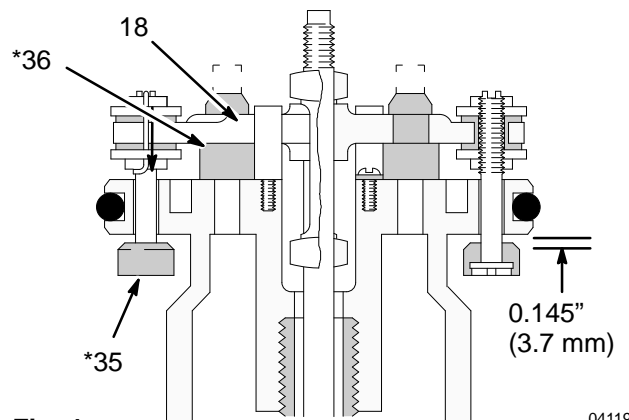

Fig. 4 04119
2. Check the polished surfaces of the piston (15), piston rod (24), and cylinder (14) wall for scratches or wear. A scored rod will cause premature packing wear and leaking.
4. Install the flat packing (27), back-up washer (26), bearing (33), packings (31) and gland (32), in the same order as before and with the lips of the v-packings facing down. Screw the packing nut (25) into the base loosely.
5. Slide the piston rod (24) down through the packings and lower the piston (15) into the base. Be sure the o-rings (21, 22) are in place.
6. Pull the exhaust valve poppets (36*) into the valve actuator (18) and clip off the top part shown with dotted lines. See Fig. 4.
7. Install the transfer valve grommets (12*), then reassemble the valve mechanism. Before installing the lockwires (17*) in the adjusting nuts (13*), use the adjustment gauge, 171–818, to adjust the transfer valve so there is 0.145 in. (3.7 mm) clearance between the poppets (35*) and the seats when they are open. See Fig. 4. Snap the toggles to the up position.
8. Reassemble the air motor and assemble it to the displacement pump. Before putting the air motor plate back on, tighten the throat packing nut (25) just snug — do not overtighten.